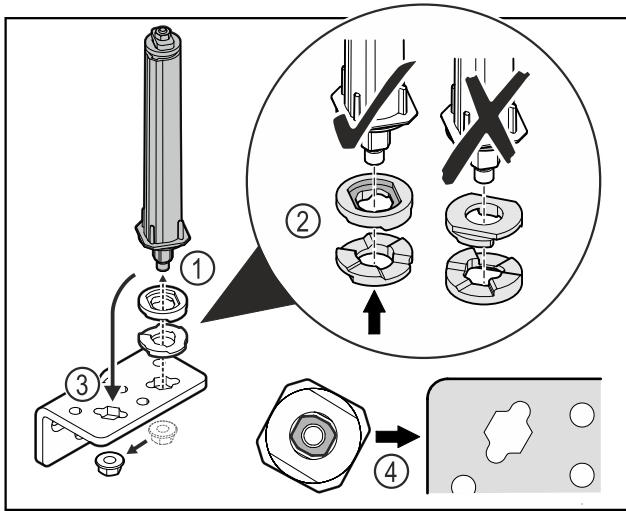

Fig. 34
- ▶ Loosen the nut and remove the door closing system Fig. 34 (1).
- ▶ Observe the correct alignment of the height adjustment washers Fig. 34 (2).
- ▶ Put the door closing system in the hinge fix in place with the nut Fig. 34 (3).
- ▶ Observe the correct alignment of the door closing system when doing so Fig. 34 (4).